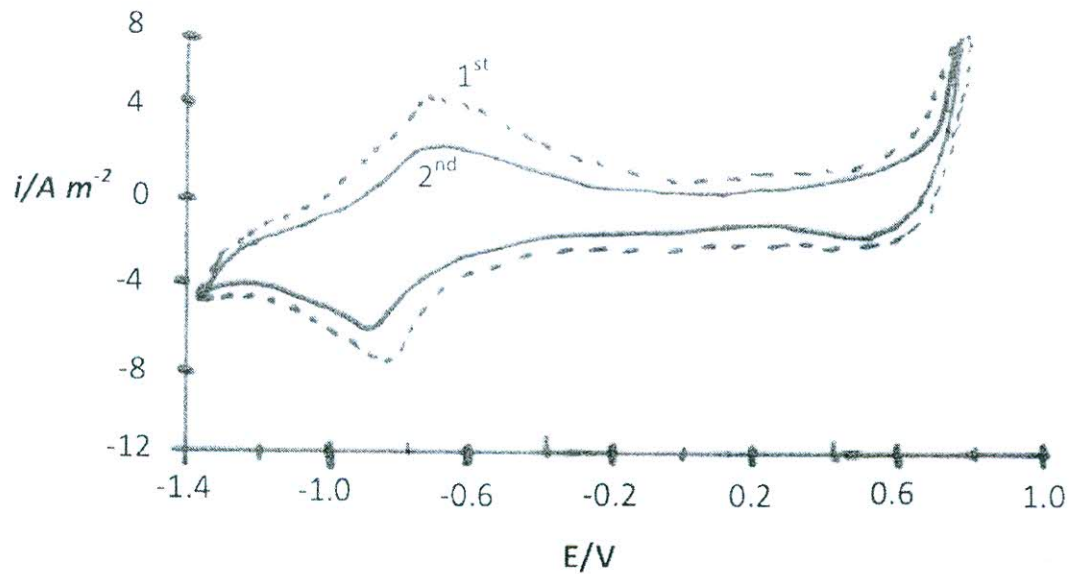

Figure 7
- [c] Figure 7 shows CV for the 1st and 2nd cycles using stainless steel 316 sample in saturated $\text{Ca}(\text{OH})_2$. Analyze and explain the corrosion/electrochemical reactions for these cycles.